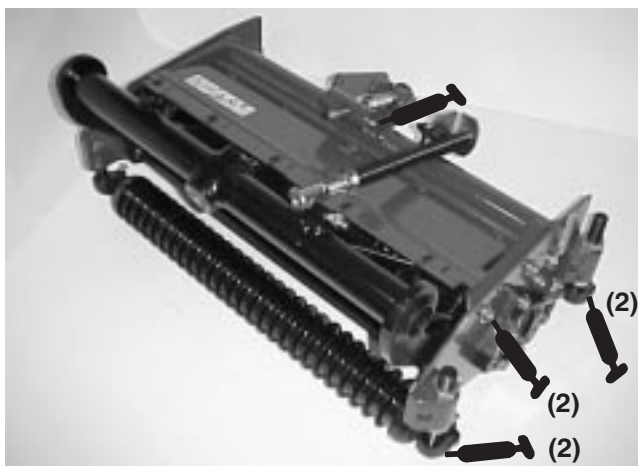

Figure 20
Each cutting unit has (7) grease fittings (Fig. 20) that must be lubricated regularly with No. 2 General Purpose Lithium Base Grease.